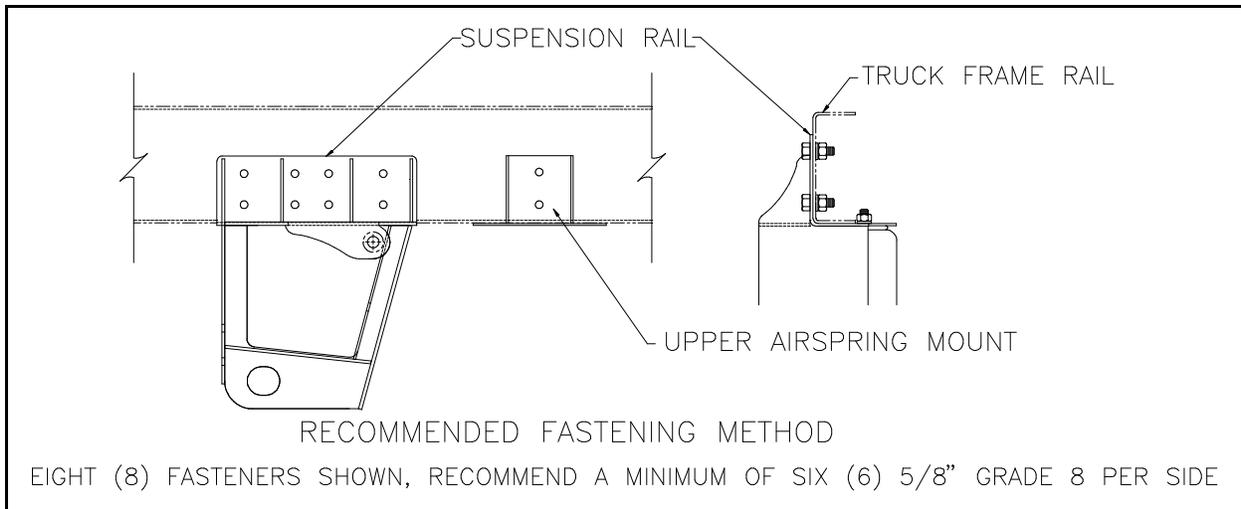

Figure 4-4
7. Drill (2) 11/16" diameter holes thru suspension side rails and truck frame rails. Fasten each suspension side rail to truck frame with 5/8 - SAE grade 8 capscrew, 5/8 SAE grade 8 flat washer and 5/8 lock nut grade 8. Recheck proper location, then drill the remaining holes, **6 (six) minimum per Side Rail** recommended. Install the remaining bolts, washer and lock nuts (See Figure 4-4) and torque capscrews to proper torque. NOTE: Recommended mounting hardware (fasteners) not supplied by Watson & Chalin.
8. Locate the upper bag plate in the proper location. Refer to the suspension drawings. Drill (2) 11/16" Diameter holes thru mounting bracket and chassis frame. Fasten each bag plate assembly with 5/8 SAE Grade 8 capscrew, 5/8 SAE Grade 8 flat washer and lock washer. See Figure 4-4.